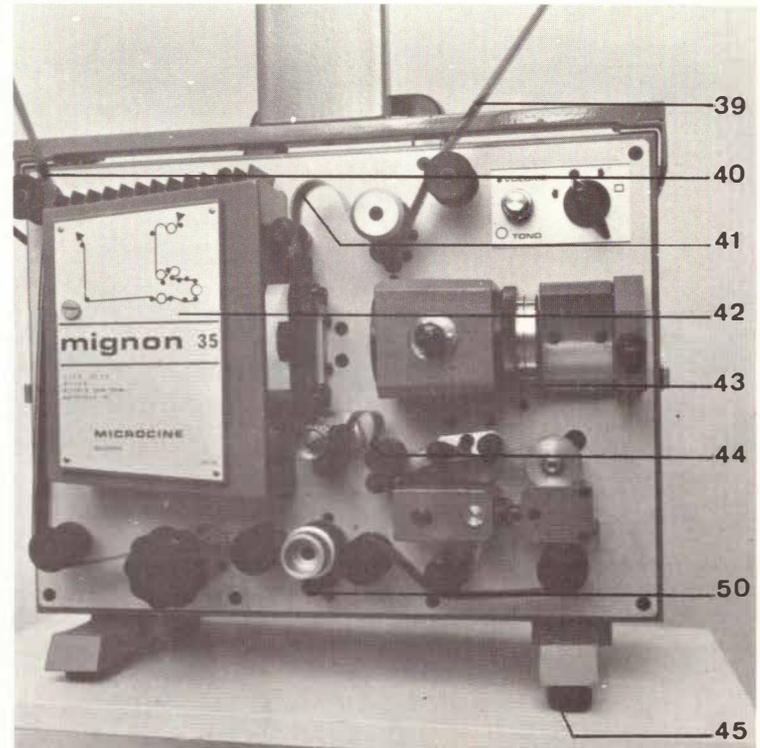

Figure 3
1. Place the Mignon 35 on a flat, rigid surface and adjust the knobs (35) located under the front feet of the projector, in order to prevent any unsteadiness.
2. Slide the "T" spool assembly (32) onto the projector along the metal slide-guides provided, until the arm is fully seated. This is important for the correct alignment of the reels with the film transport guide rollers. Fasten the "T" assembly by tightening the clamping knobs (31) and insert the plug (57) into the socket (56) located in the upper rear of the unit. This will connect the winding motor (33) to the power supply.
3. The Mignon 35 is available for operation at 220V, 240V/50Hz (or 117V/60Hz on request). The exact voltage and frequency required should always be specified when ordering. The 10 AMP fuse (60) is located on the lower rear, between the socket for the power cable (51) and the speaker socket (59). Insert the power cable in the socket (61) and connect it to the "mains" power supply. The white indicator light located above the pressure pad will show that the projector is on. The Mignon 35 should always be earthed by using the third lead available in the power supply cable.
4. By using the cable supplied with the projector, connect the speaker (35), which is the cover of the projector, to the speaker socket (59) located in the bottom rear of the unit. Rotate the small volume knob (3) on the face, which switches on the amplifier and the exciter lamp (55).
5. Place two reels on the 9 mm shafts (30) and (37) of the "T" assembly, and lock them with the toggles. The film should be on the front reel and, according to normal practice, the film comes off the front of the reel, with the sound track nearest the operator, and the image upside down. Lace the film as shown in the diagram (42) on the lamp cover. To ensure a steady picture, it is important that the film loops (41) and (44) are correctly adjusted, as shown in fig. 3.